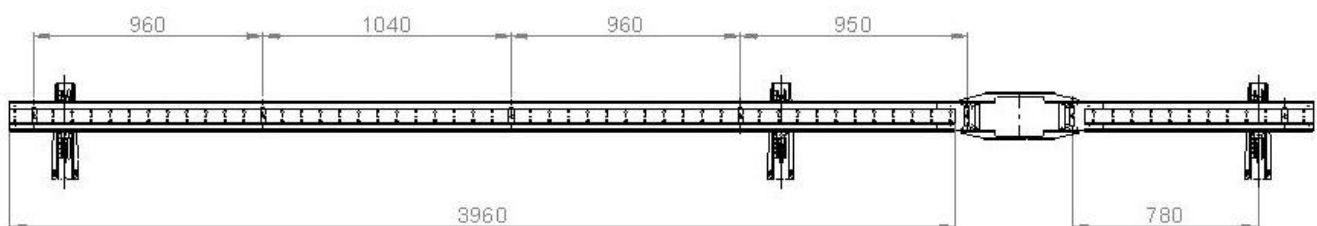

Fig. 62: Distances between hanger clamps 0831 in ProShell 128 Support Profile System
- The distances of the hanger clamps are selected as in Fig. 62